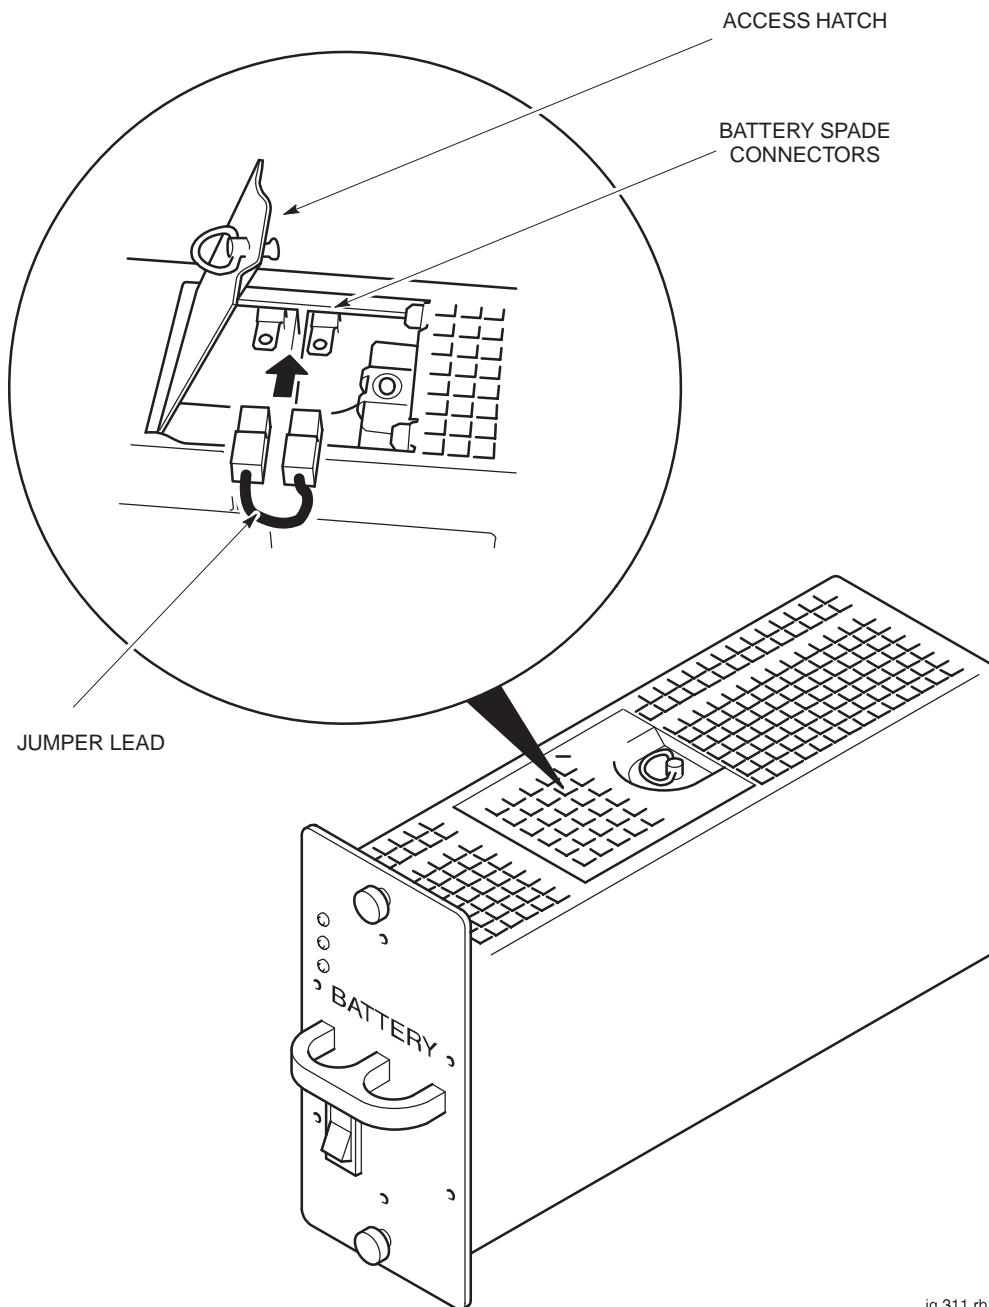

Figure 2-40 Connecting battery isolation jumper lead
3. Fit the jumper lead between the battery spade terminals as shown in Figure 2-40. Close the access hatch and turn the fastener a quarter turn clockwise to secure.
Figure 2-40 shows the hold-up battery module with the battery isolation jumper connection shown in detail.